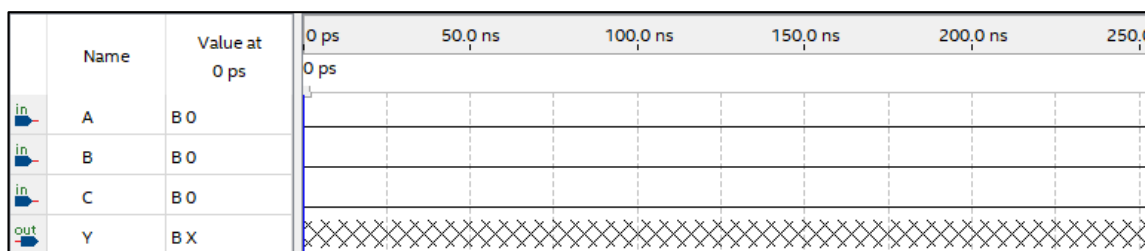

Figure 8: Vwf window with 25 ns grid size
- Use the magnifying glass to zoom in on the waveform window until you can see 50 ns intervals as seen in the image of Figure 8.
- Using your mouse (make sure the pointer is selected), click and drag your mouse cursor across 50 ns to 200 ns on input A to select the area. Now select the “1” button on the toolbar (or select “Edit”, “Value”, “Forcing High (1)”) to set this signal to High during this time window.